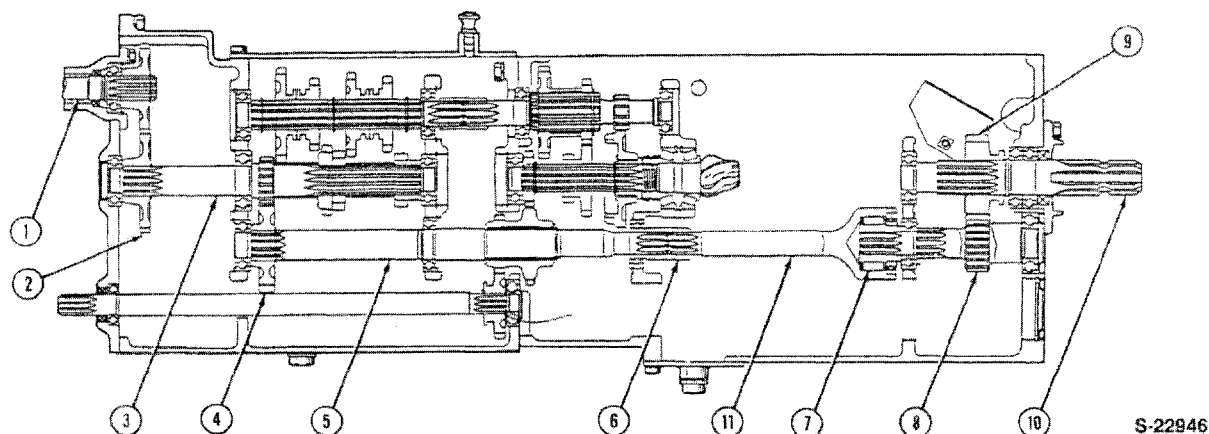

Figure 1
The PTO is driven from the flywheel clutch and transmission input shaft. A gear on the input shaft is in constant mesh with the splined gear (2) on the transmission countershaft (3), Figure 1.
The transmission countershaft is in constant mesh with the gear (4) on the front PTO countershaft and drives the countershafts (5, 11, and 8), Figure 1.
A one-way clutch (7), Figure 1, is utilized on the 9 x 3 gear transmission.